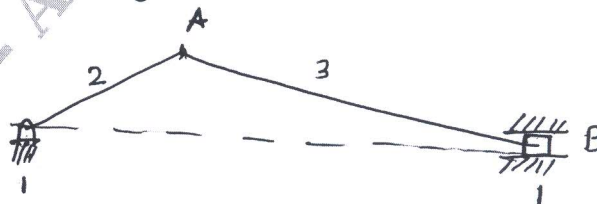

Fig.Q.4(c)
- c. In a slider crank mechanism shown in Fig.Q.4(c) the crank OA = 300mm and connecting rod AB = 1200mm. The crank OA is turned 30° from inner dead centre. Locate all the instantaneous centres. If the crank rotates at 15rad/sec clockwise find i) Velocity of slider B ii) Angular velocity of connecting rod AB. (10 Marks)